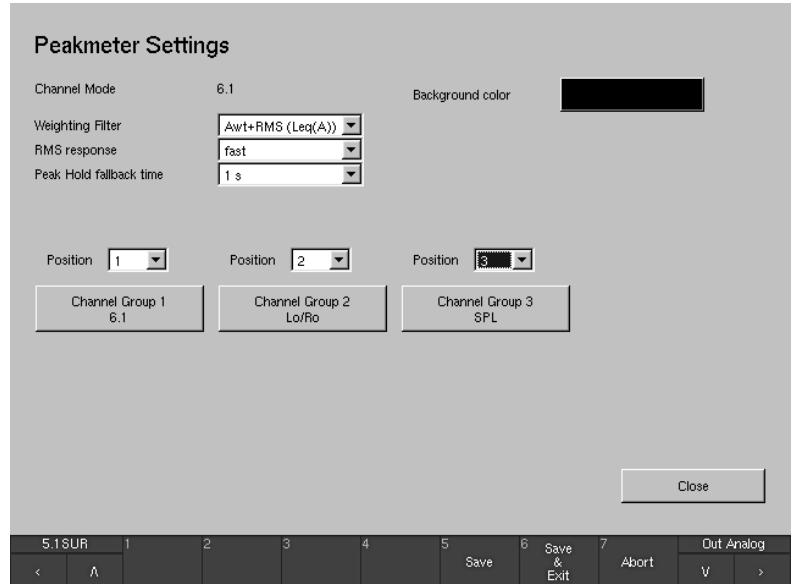

Fig. 6-35: Example: The Peakmeter Settings menu page in 6.1 Surround mode
and Figs. 6-35 to 6-37
- The **Peakmeter – Channel Group** menu pages are accessed using the **Channel Group** buttons of the **Peakmeter Settings** menu page (see Chapter 6.5.2.6 and Figs. 6-35 - 6-37).